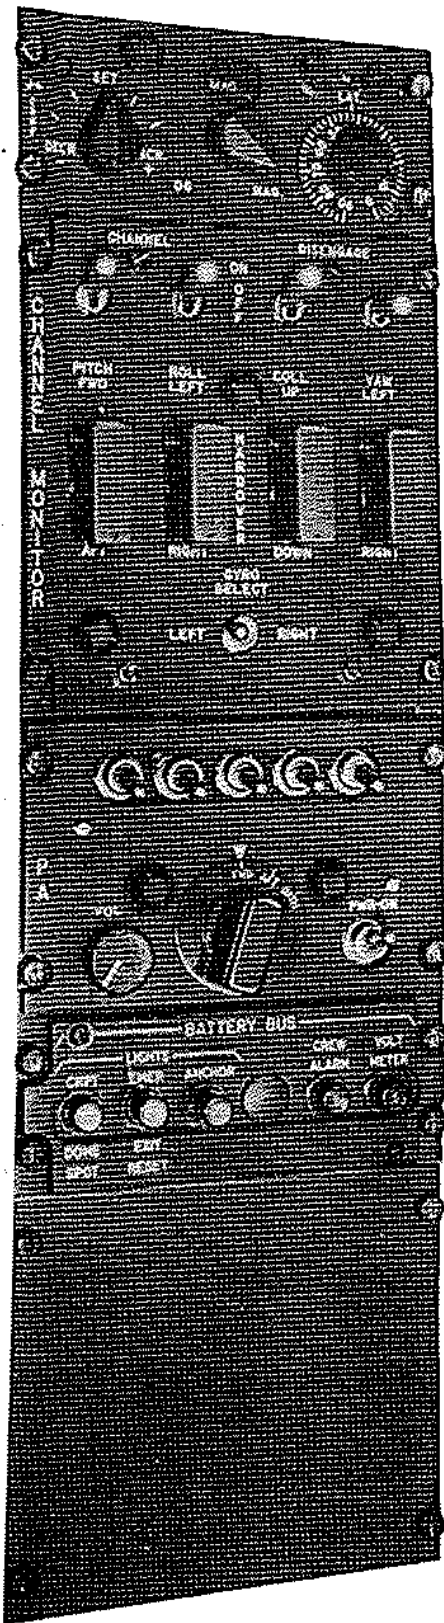

Figure 1-44. Pilot's Console (Typical)
The channel monitor control panel, marked CHANNEL MONITOR is located on the pilot's console (figure 1-44) to the right of the pilot's seat. The controls consist of four toggle switches across the top of the panel, marked PITCH, ROLL, COLL, and YAW, under the general heading CHANNEL DISENGAGE, with marked position ON and OFF. These toggle switches permit individual disengagement of the pitch, roll, collective, and yaw channels of AFCS. They are usually left in the ON position, except when the pilot wishes to disengage a malfunctioning channel. Directly below the four
The J-4 compass control panel, located on the pilot's console (figure 1-44), contains all the controls for operation of the compass system. The function selector switch has marked positions DG and MAG. When the function selector switch is placed in the DG position, the compass system will function as a free directional gyro, with either north or south latitude corrections for the drift effect of the rotation of the earth. When the switch is placed in the MAG position, the gyro is slaved to the earth's magnetic field. Directional reference signals are obtained from the remote compass flux valve. In this mode of operation, the gyro is used as the stabilizing element of the compass system. The rotating azimuth card on the BDHIs will indicate stabilized magnetic headings. The annunciator meter, marked MAG on the compass control panel, provides indication of the synchronization of the compass system. In magnetic compass (MAG) operation, the synchronization circuits automatically synchronize the gyro to the remote compass flux valve. Automatic synchronization is established in the first 15 seconds of MAG operation and is maintained during operation of the compass system in this mode. In the directional gyro (DG) mode of operation, synchronization is not established or maintained automatically. Manual synchronization is accomplished by operating the SET synchronizer switch on the compass control panel. When the SET synchronizer switch, with marked positions DECR (-) and INCR (+), is displaced to the right or left, a synchronized signal is provided through the system at the rate and direction required to set the compass card of the pilot's and copilot's BDHIs, as desired. Synchronization of the system is indicated on the annunciator meter when the pointer is in line with the white arrow on the control panel. Reference heading data for the AFCS system is not affected by the synchronization cycles. The BDHIs compass cards can also be repositioned by use of the SET synchronizer switch when the compass is in magnetic compass (MAG) operation. The switch marked LAT is used to set in the proper magnitude of latitude correction during the DG mode of operation. Maximum drift of the directional gyro occurs when the gyro spin axis is at right angles to the earth's spin axis (north and south poles), and zero drift occurs